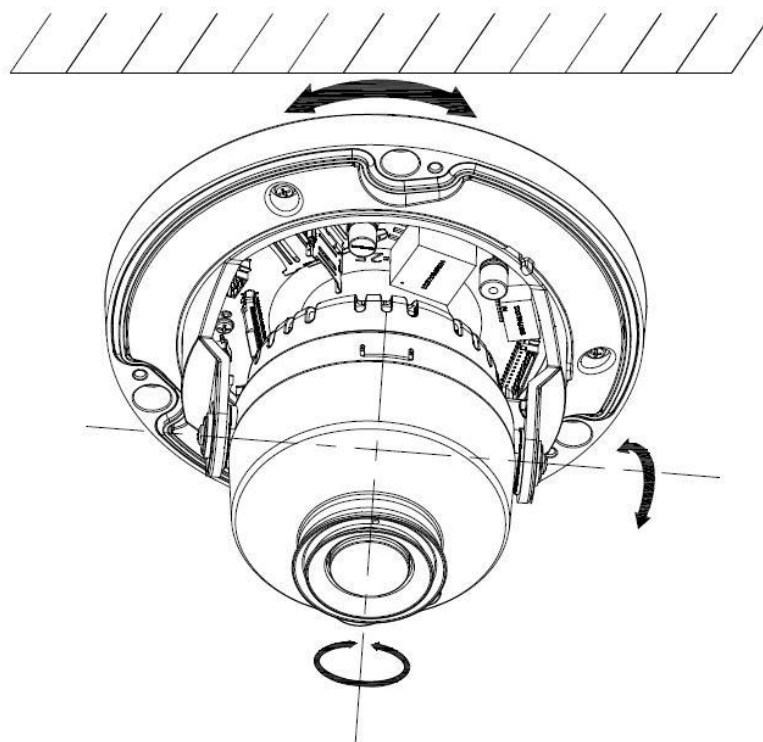

Figure 3-3
- Step 1** Find the mounting template sticker from the accessory pack and stick it to the mounting surface①.
- Step 2** Drill screw holes (and the cable outlet hole if it needs to go through the mounting surface) on the mounting surface as indicated on the mounting template, then insert expansion bolts② from the accessory pack in the screw holes.
- Step 3** Loosen the locking screw on the dome⑥ with the supplied wrench⑦ and take the dome⑥ off.
- Step 4** Adjust the location of the pedestal③ according to cable outlet requirement (top out or side out), then pull the cable out through mounting surface or the side cable tray. Align the screw holes on the pedestal's ϕ to those on the mounting surface.
- Step 5** Put in and fasten the supplied self-tapping screws④ to attach the device to the mounting surface.
- Step 6** Connect the camera to power source and the XVR device, and the live view screen will be displayed. Aim the lens to the ideal angle and adjust the focus until you get clear image. See Figure 3-3.